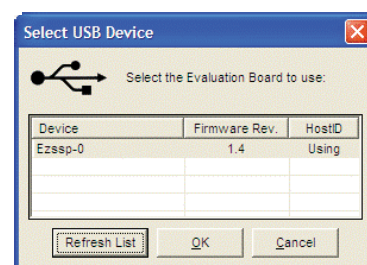

Figure 5. Select USB Device Window
6. If the evaluation board was not automatically detected when it was connected, choose **Select Evaluation Board** from the **I/O** menu, and then select **Ezssp-0**, **Ezssp-1**, or **Ezssp-2** (see Figure 5).